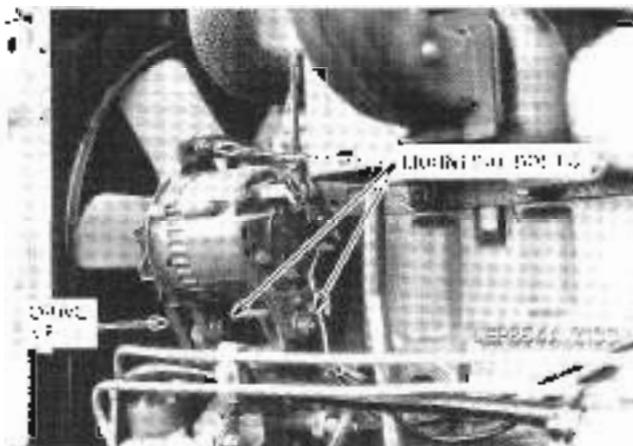

Figure 55 - Alternator Mounting Bolts
1. Turn off the alternator, disconnecting battery, as shown in Figure 55.